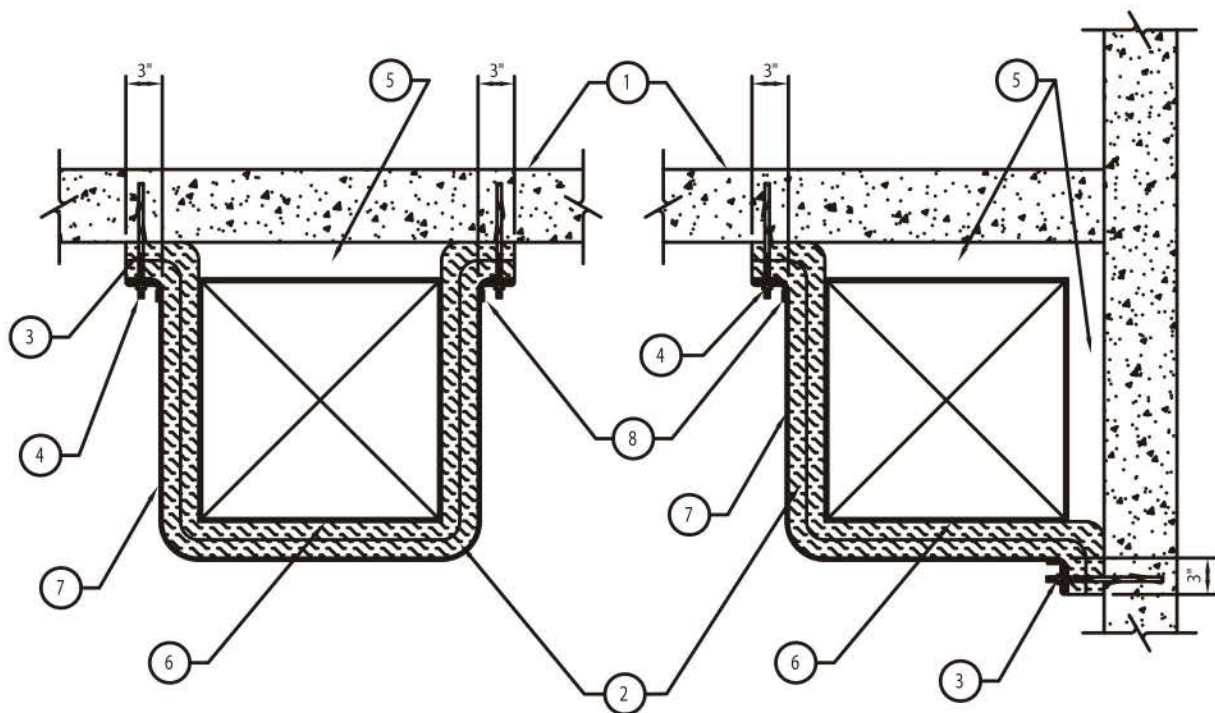

FIGURE 4
C. 2 & 3 Sided Wrap Installation (Figure 4)
When space does not allow for a complete wrap applied to the duct on all four sides, the FastWrap XL is approved for 2 or 3 sided installations with mechanical attachment to a rated concrete or CMU assembly. (See Figure 4 for installation details.)